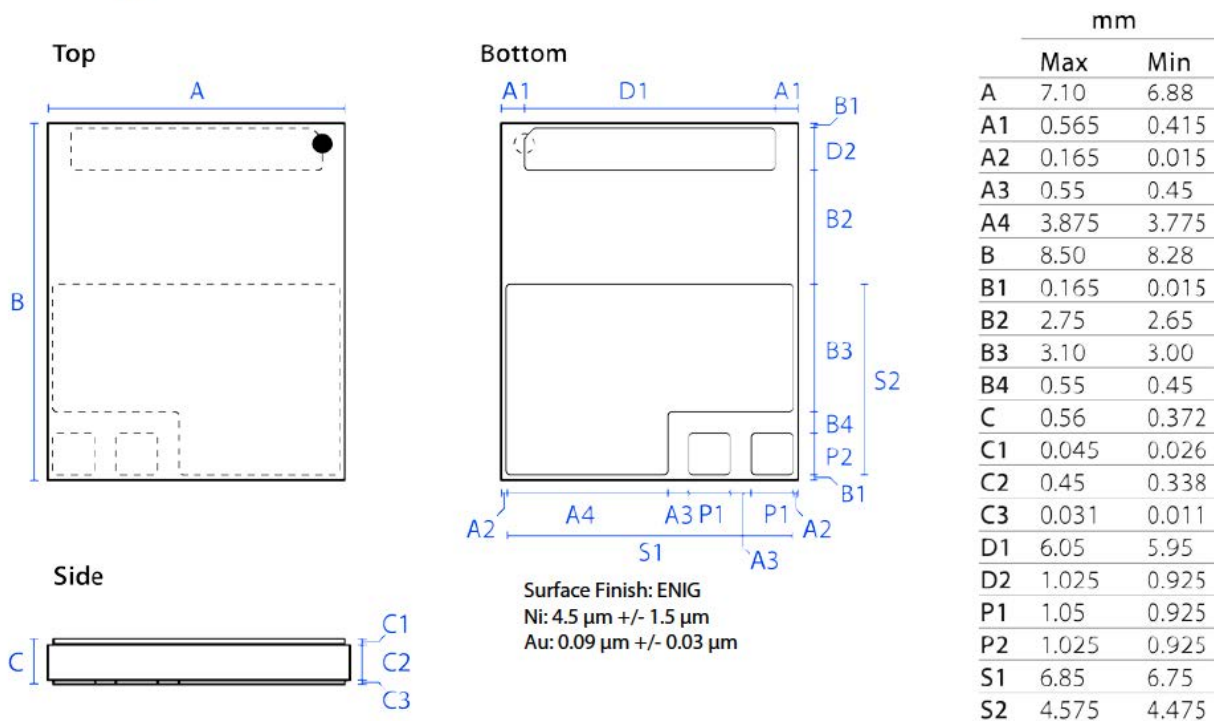

Figure 1 Segments of the datasheet for the GaN Systems GS66508B transistor.
b. Consider the GaN Systems GS66508B transistor used on a printed circuit board having similar characteristics and constraints as in part a. (a subset of the datasheet for the transistor is shown in Fig. 1.) In the circuit considered in this problem, the transistor is used such that its source is electrically connected to system ground on the printed circuit board, with a thermal via farm placed under the source pad connecting to a water-cooled heatsink mounted on the opposite side of the board. Consider the conservative case of heat transfer *only* to the heatsink and *only* through the portion of the pcb directly under the transistor, and assume that the heatsink is able to maintain the back surface of the board at $85 \text{ }^\circ\text{C}$.